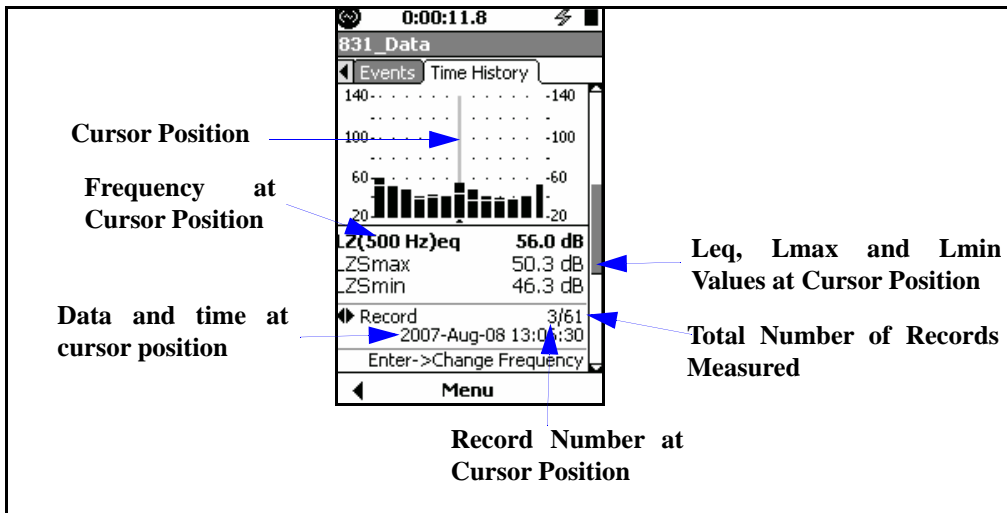

FIGURE 11-10 Time History Display: Spectra Metrics, Section 2 and 3
- **One additional display if all frequency spectra metrics are either 1/1 or 1/3 octave spectra. Press the \cup key to show the spectrum display as shown in FIGURE 11-10.**
For the display shown in FIGURE 11-10, the \leftarrow and \rightarrow keys have dual roles as listed below. Press ENTER to toggle between them:
In this display, the time history of the LZeQ level is shown at 1.00 kHz, the frequency of the cursor position used in frequency spectrum display shown in FIGURE 11-10 when changing to this display. Use the \leftarrow and \rightarrow keys to change the record number (time value).